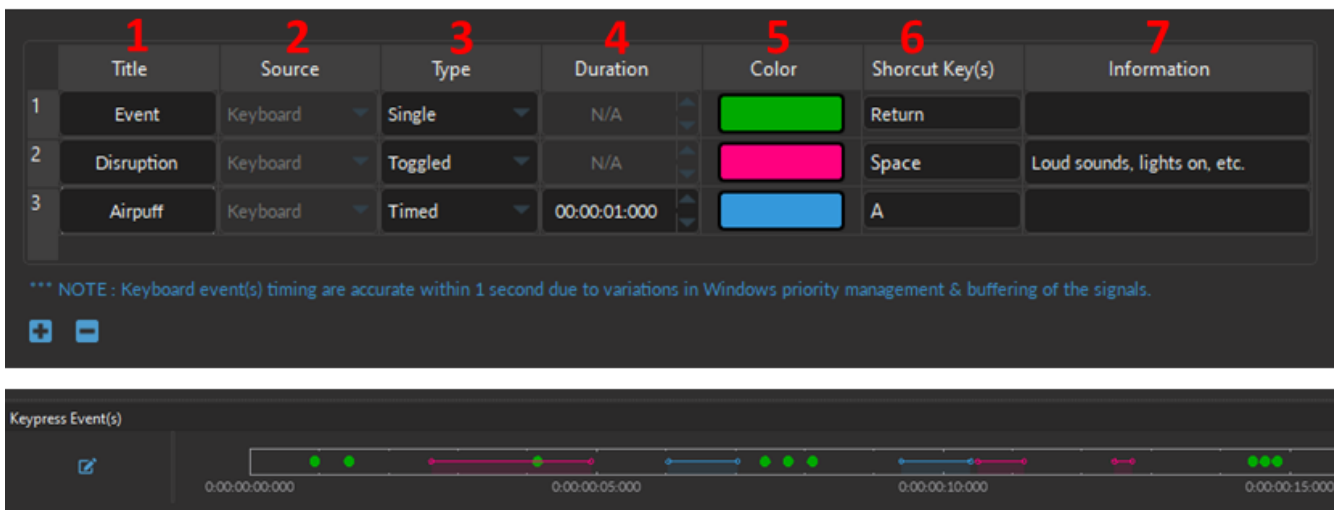

Figure 7.13: Channel(s) configuration window, Keypress Event(s)
The following are the configurable parameters of a **Keypress Event**, per Fig. 7.13:
6. The **Shortcut Key(s)** can be any keyboard key, including space bar, enter, backspace, any letters, numbers, and special characters (*, !, ? etc.). To specify the key, click inside the *Shortcut Key(s)* cell, then press the keyboard key of choice. If a key is properly set, it will appear in the *Shortcut Key(s)* cell (as in Fig. 7.13, column 6).